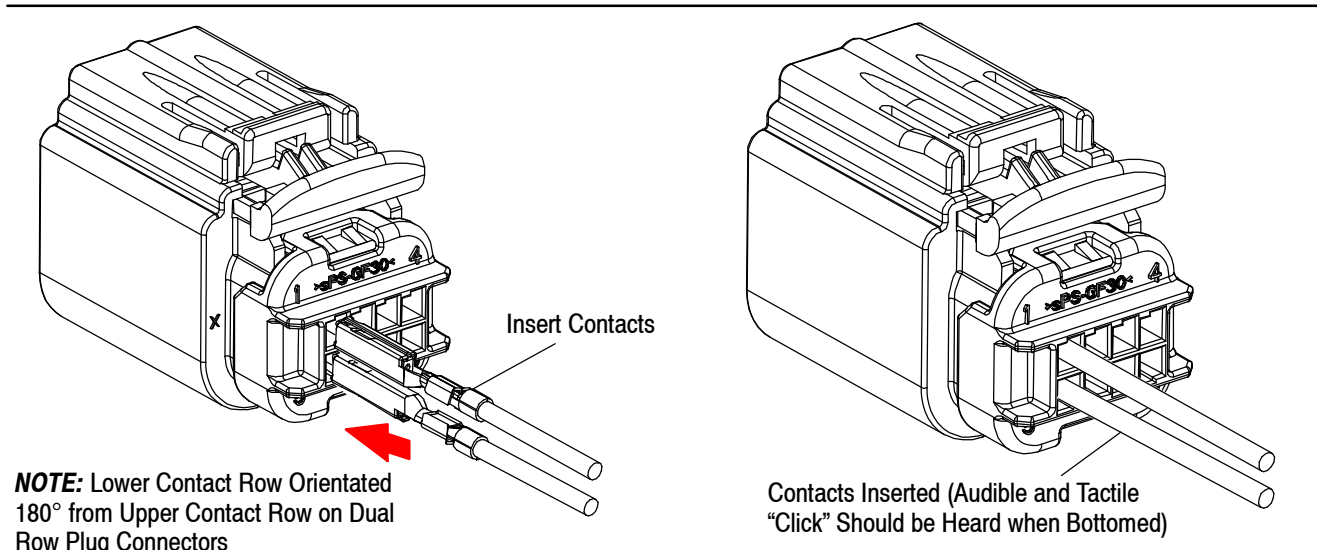

Figure 6
2. Locate the desired circuit into which the individual socket contact will be loaded. The contact must be inserted from the wire end (rear) of the plug connector until it bottoms (there should be an audible and tactile "click"). Each socket contact must be locked in place. Gently pull on the wire to ensure proper contact locking and retention with a force of 4.5 to 8.9 N [1 to 2 lbf]. See Figure 6.